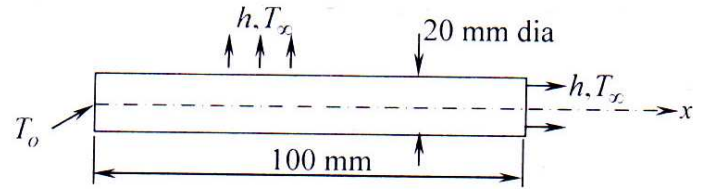

Fig. Q 10
10. Fig Q 10 shows a uniform aluminium fin of diameter 20 mm. The root (left end) of the fin is maintained at a temperature of $T_0 = 100^\circ\text{C}$ while convection takes place from the lateral (circular) surface and the right (flat) edge of the fin. Assuming $K = 200 \text{ W/m}^\circ\text{C}$, $h = 1000 \text{ W/m}^2\text{C}$ and $T_\infty = 20^\circ\text{C}$, determine the temperature distribution in the fin using a two-element idealization. 20